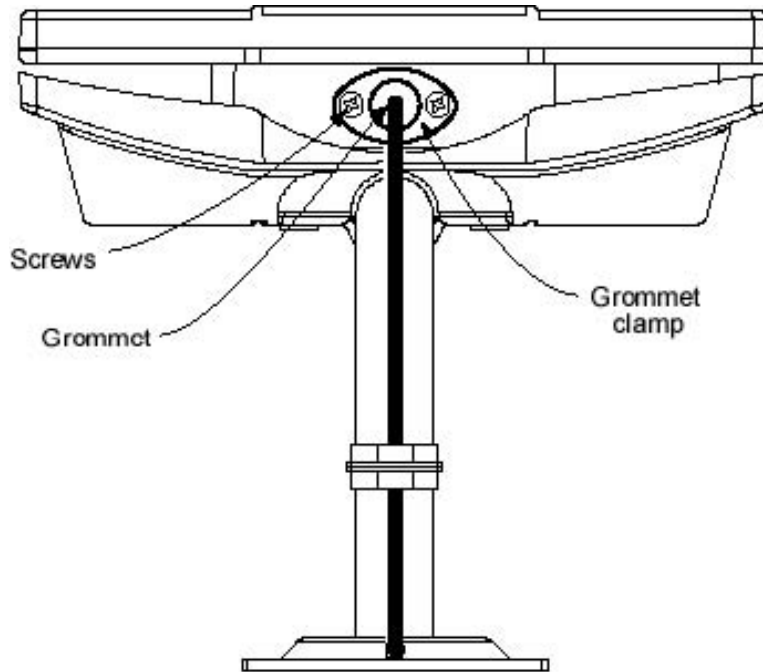

Figure 6-1: Grommet Location - Underside of Access Point
- 2) Insert the cable end through the grommet clamping plate (Figure 6-1:)